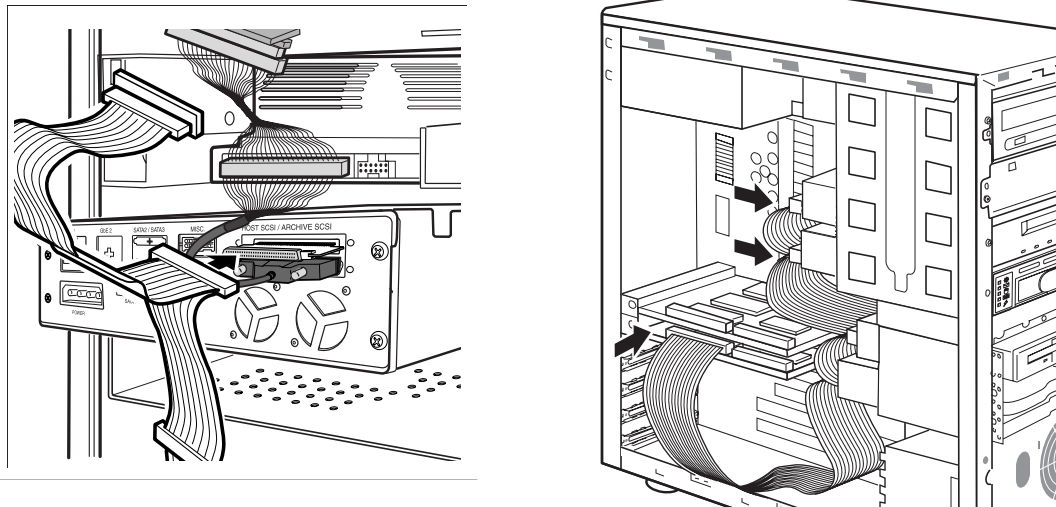

Figure 10. SCSI Cable Connections
4. Connect an existing SCSI cable from the CPU mainboard or a SCSI adapter card to the VHDC-1 to HD68 converter (see Figure 10 on page 28).